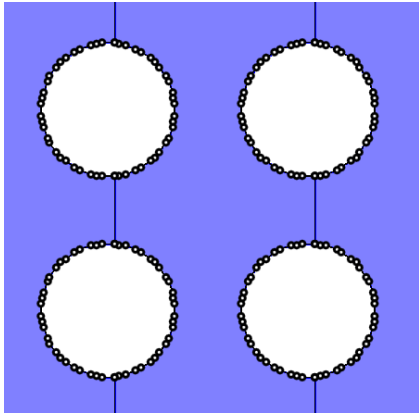
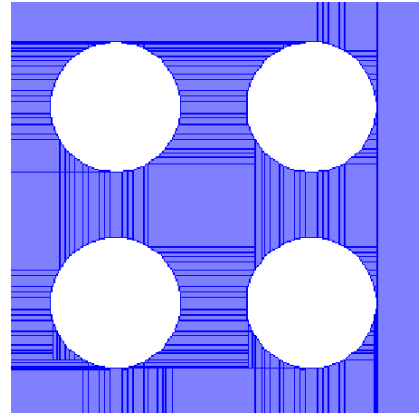

Figure 2. Vertices outlining circles in a PC.
Figure 3. Fractured layout following the vertices of the layout.
As an example, let us take a photonic crystal (PC) designed with holes with diameter of 200 nm. Such a device is generated using multiple vertices (see Fig. 2). These vertices increase the resolution of the layout, providing a smooth outline regardless of the shape. However, if the pattern is fractured, each vertex defines the grid for the fragmentation (see Fig. 3). The fracture of the layout changes when varying the number of vertices or the hierarchy of the design. Additionally, the computation time increases with a higher number of vertices.